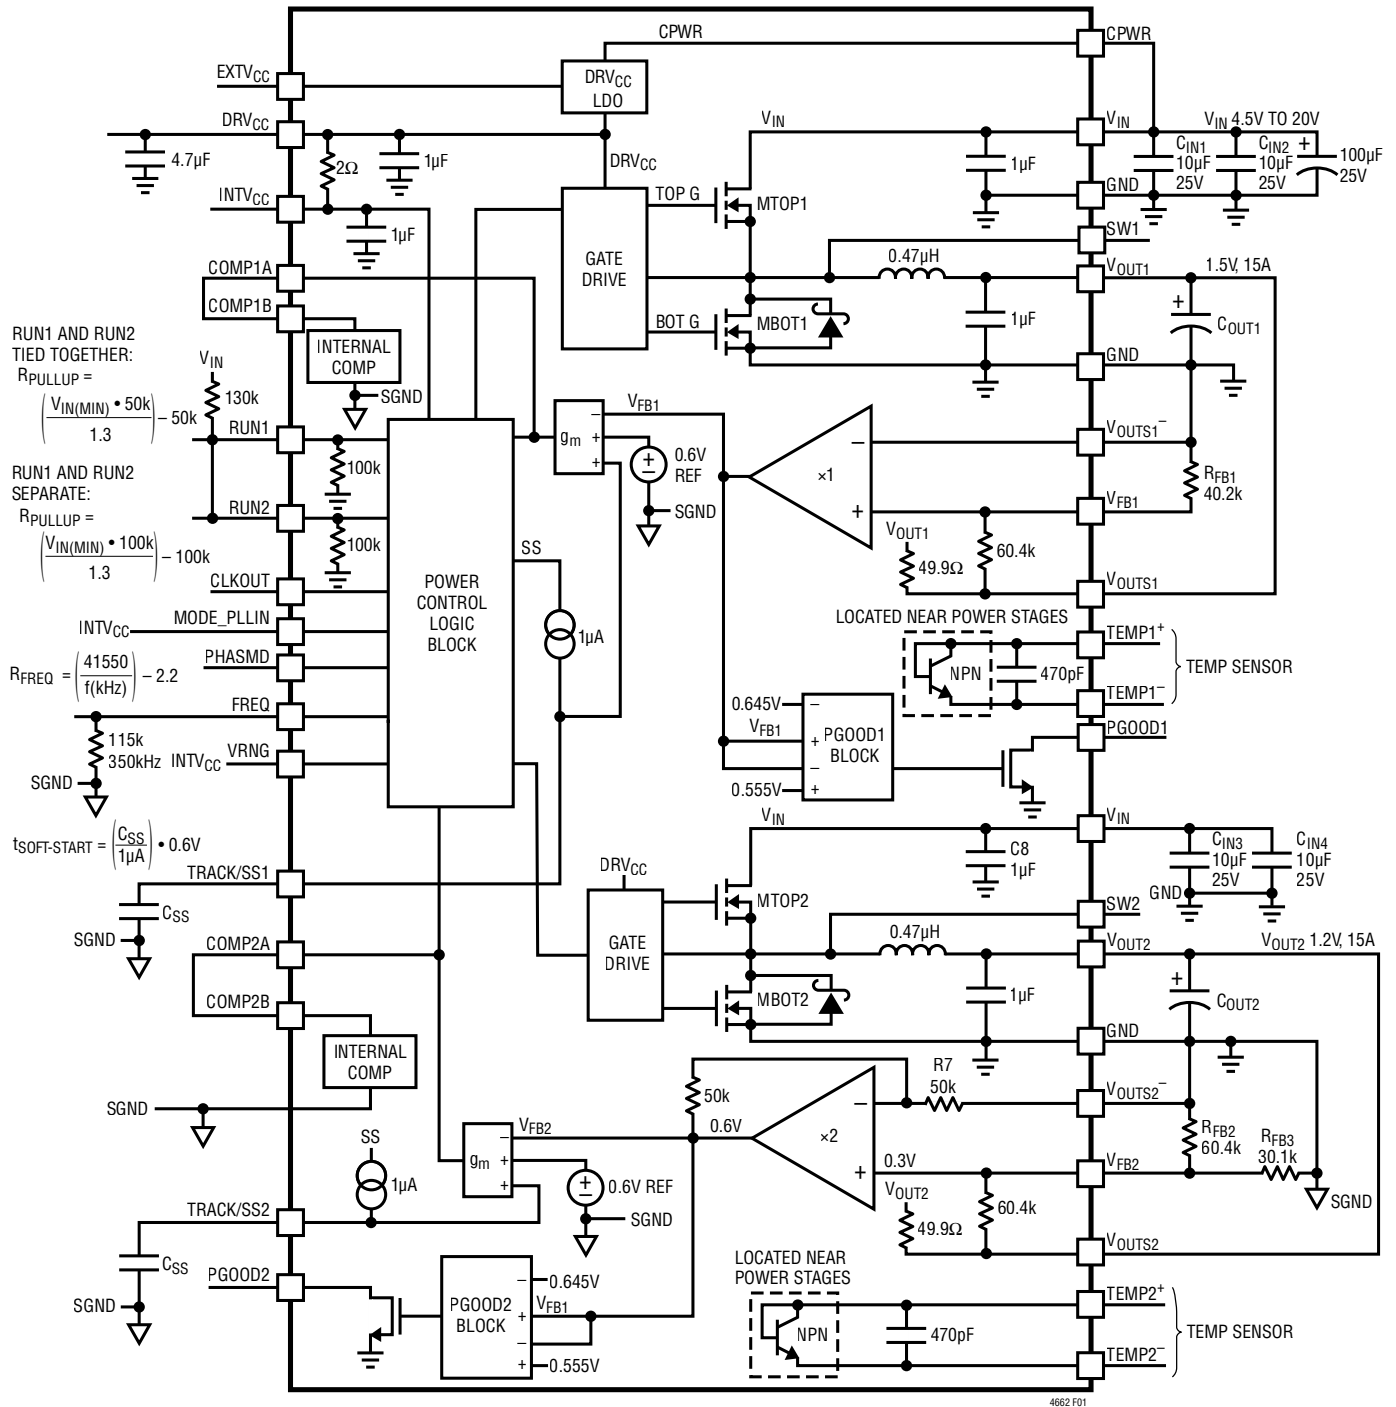

Figure 1. Simplified LTM4662 Block Diagram
**VFB2 (E4):** This pin is the + input to a non-inverting gain-of-two amplifier utilizing three resistors in the feedback network to develop a remote sense divider network. This pin is connected to VOUTS2 with an internal 60.4k precision resistor. The VOUT2 voltage is divided down to 0.3V then gained back up to 0.6V to compare with the internal 0.6V reference. This technique provides for equivalent remote sensing on VOUT2. See Figure 1 and the Applications Information section for details.
**$V_{FB1}$  (G4):** This pin is the + input to a unity gain differential amplifier. This pin is connected to  $V_{OUTS1}$  with a 60.4k precision resistor internal. Different output voltages can be programmed with an additional resistor between  $V_{FB1}$  and  $V_{OUTS1}$  pins. The differential amplifier is feeding back the divided down output voltage from a remote sense divider network to compare to the internal 0.6V reference. In 2-phase single output operation, tie the  $V_{FB1}$  pin to  $INTV_{CC}$ . See Figure 1 and Applications Information section for details.
**RUN1, RUN2 (H5, D5):** Run Control Pins. A voltage above 1.3V will turn on each channel in the module. A voltage below 0.9V on the RUN pin will turn off the related channel. Each RUN pin has a 1.2 $\mu$ A pull-up current, once the RUN pin reaches 1.2V an additional 4.5 $\mu$ A pull-up current is added to this pin. A 100k resistor to ground is internal, and can be used with a pull-up resistor to  $V_{IN}$  to turn on the module using the external and internal resistor to program under voltage lockout. Otherwise, an external enable signal or source can drive these pins directly below the 6V max. Enabling either RUN pin will turn on the DRVCC, and turn on the  $INTV_{CC}$  path for operation. See Figure 1 and Applications section.
## DECOUPLING REQUIREMENTS $T_A = 25^\circ\text{C}$ . Use Figure 1 configuration.
The PWM controller has an internal 0.6V reference voltage. As shown in Figure 1, a 60.4k internal feedback resistor connects between the  $V_{OUTS1}$  to  $V_{FB1}$  and  $V_{OUTS2}$  to  $V_{FB2}$ . It is very important that these pins be connected to their respective outputs for proper feedback regulation. Each channel has a 49.9 $\Omega$  resistor connected from  $V_{OUTS1}$  and  $V_{OUTS2}$  to  $V_{OUT1}$  and  $V_{OUT2}$ , respectively. This is used to protect the output if  $V_{OUTSn}$  is open or left unconnected. The  $V_{OUT1}$  output voltage will default to 0.6V with no feedback resistor on  $V_{FB1}$ . Adding a resistor  $R_{FB1}$  from  $V_{FB1}$  pin to  $V_{OUTS1}^-$  programs the output voltage: